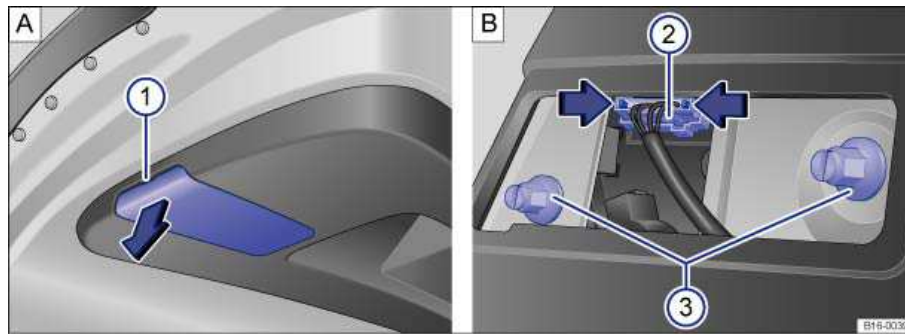
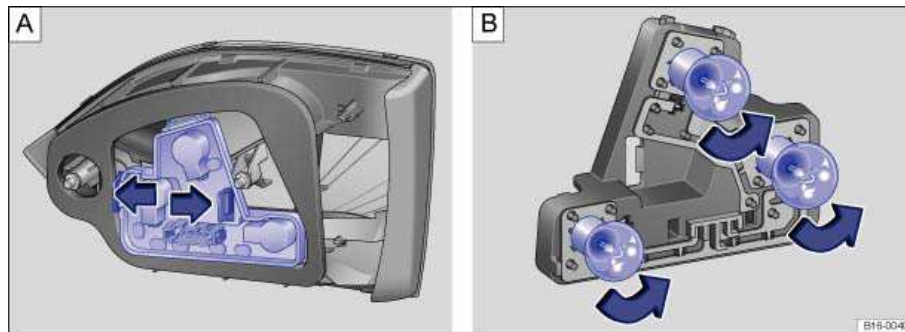

Fig. 180 In the luggage compartment lid. A: Removing the taillight cover. B: Removing the taillight assembly.
Fig. 181 Taillight assembly. A: Removing the bulb holder. B: Removing the light bulbs.
3.	Using the flat blade of the screwdriver from the vehicle tool kit carefully pry the cover off the slot ⇒ fig. 180 A (1).
4.	Unscrew the fastening screws B (3) with your hand and carefully remove the taillight assembly from the luggage compartment lid.
5.	Press together the release tabs for the connector plug B (2) in the direction of the arrow and pull the connector plug off.
6.	Unlock the bulb holder by pressing the locking tabs in direction of the arrow ⇒ fig. 181 A and remove the bulb holder from the taillight assembly.
9.	Attach the connector plug ⇒ fig. 180 B (2) to the bulb holder.
10.	Carefully reinsert the taillight assembly into the opening in the luggage compartment lid. Hold the rear light assembly with one hand in the installation position and with the other hand, tighten the fastening screws B (3) .